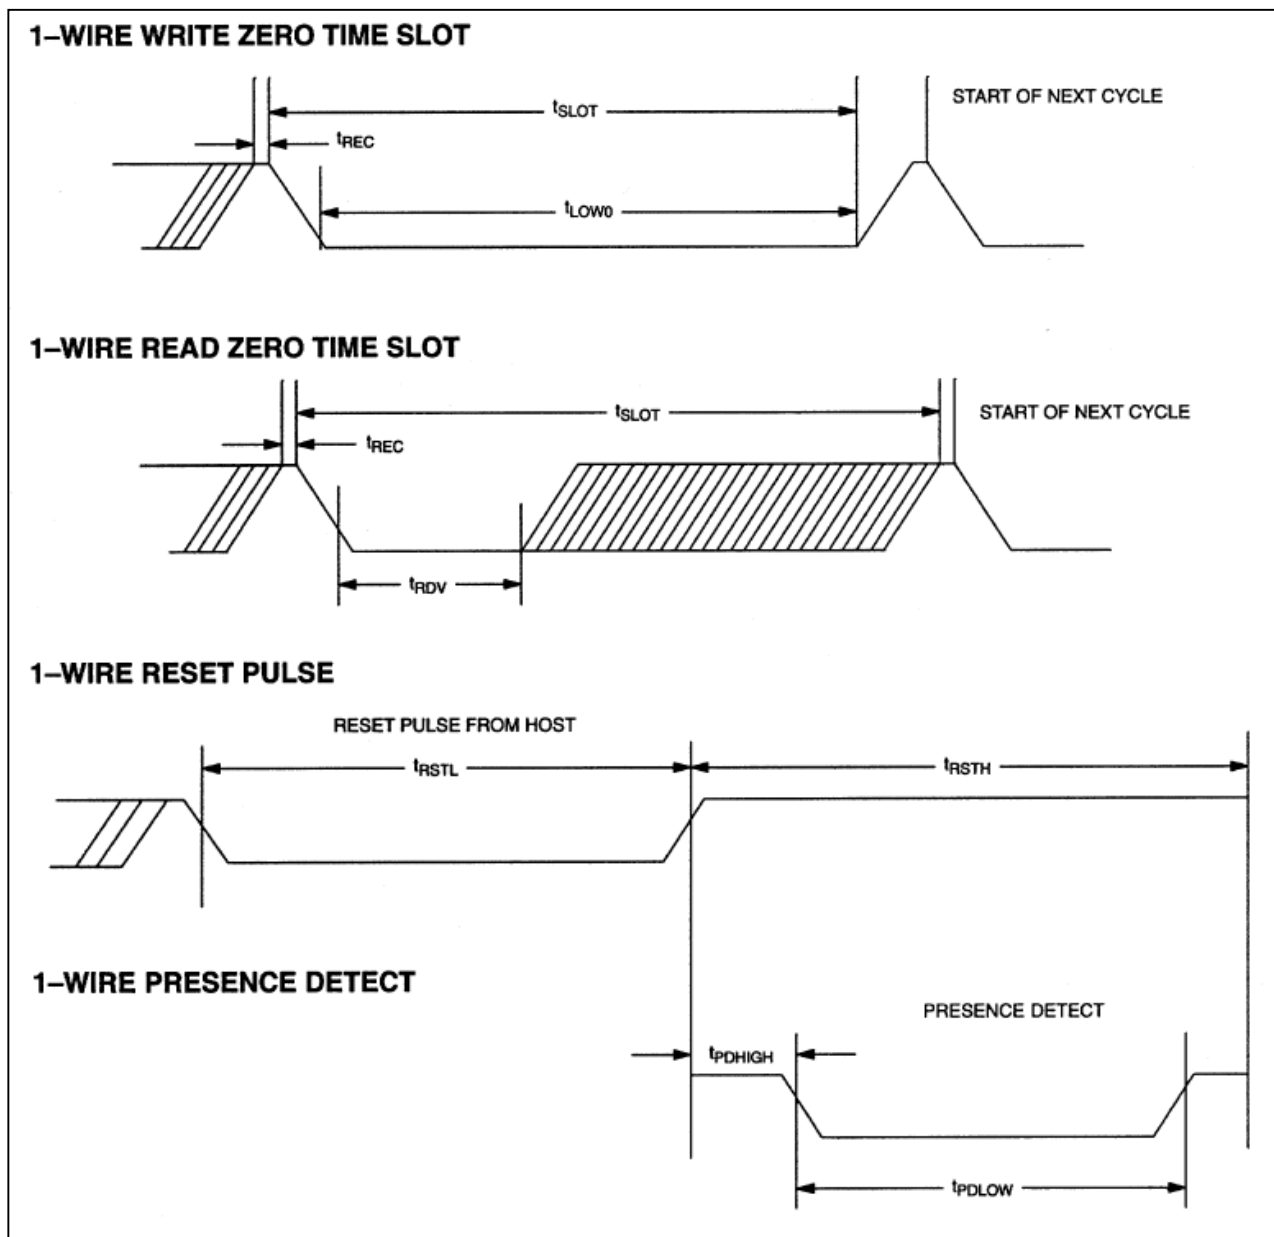

Figure 18. Timing Diagrams
1) See the timing diagrams in Figure 18.